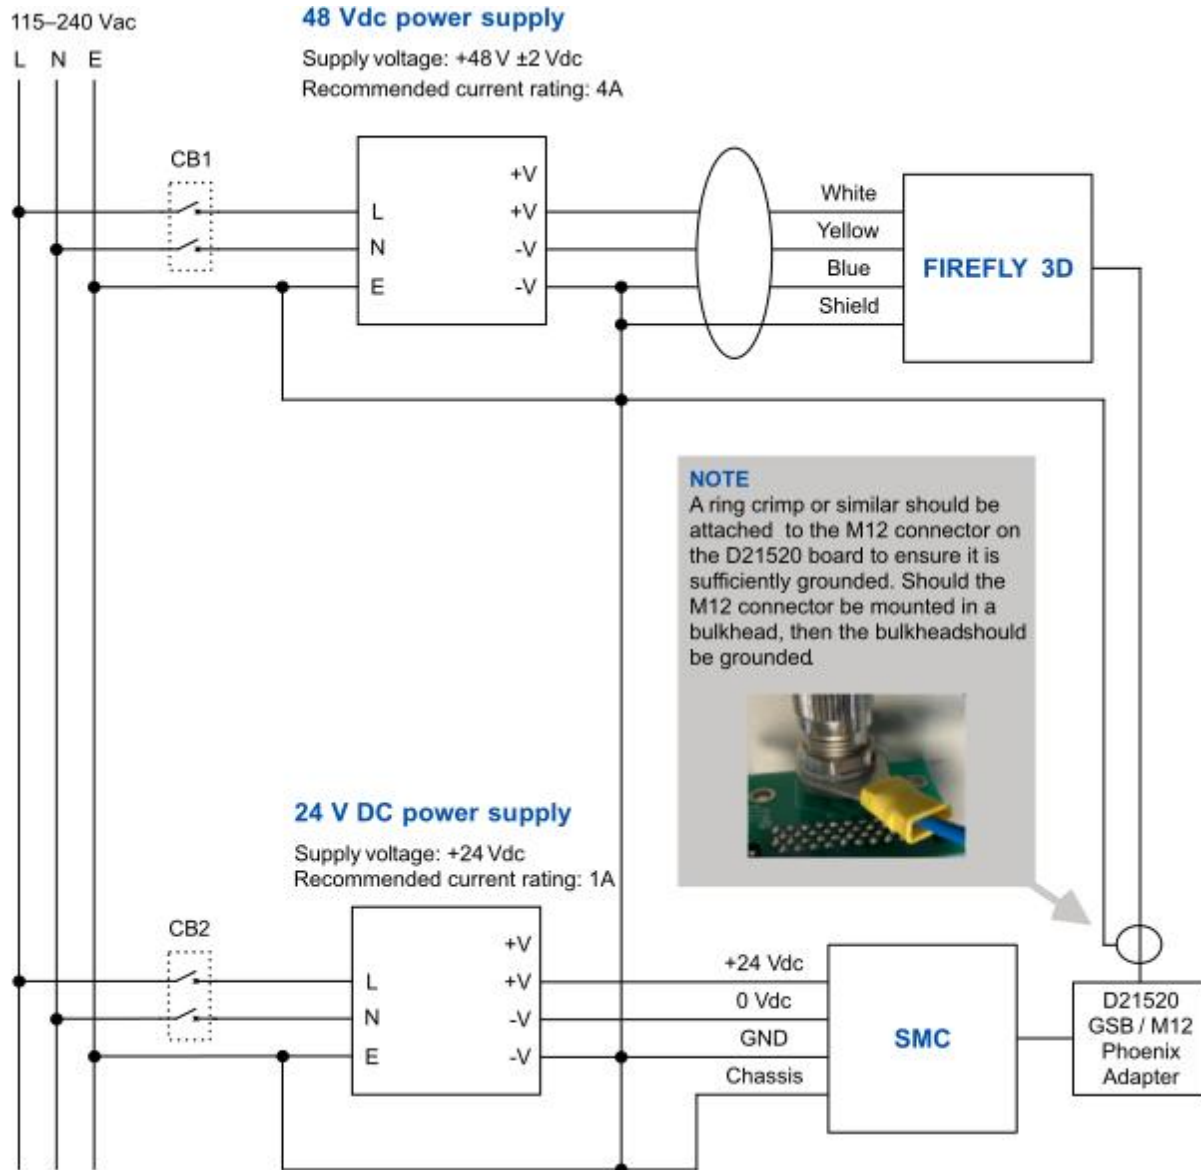

Figure 6: Recommended wiring and grounding scheme
- With the grounding scheme implemented as per Figure 6 on page 41 it is recommended that the SMC and Firefly3D are powered up at the same time.